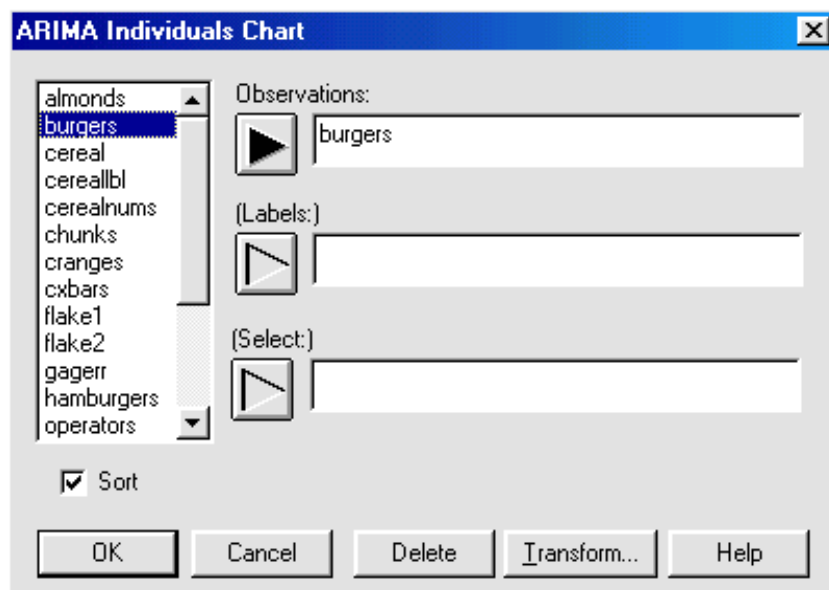

Figure 7-18. ARIMA Individuals Chart Analysis Dialog Box
1. Choose **SPECIAL... QUALITY CONTROL... SPECIAL PURPOSE CONTROL CHARTS... ARIMA INDIVIDUALS CHART...** to display the Analysis dialog box (see Figure 7-18).